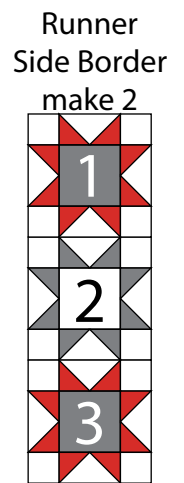

Fig. 10
8. Sew together (1) Block One square, (1) Block Two square and (1) Block Three square, in that order from top to bottom, to make (1) Runner Side Border (Fig. 10). Repeat to make a second Runner Side Border.